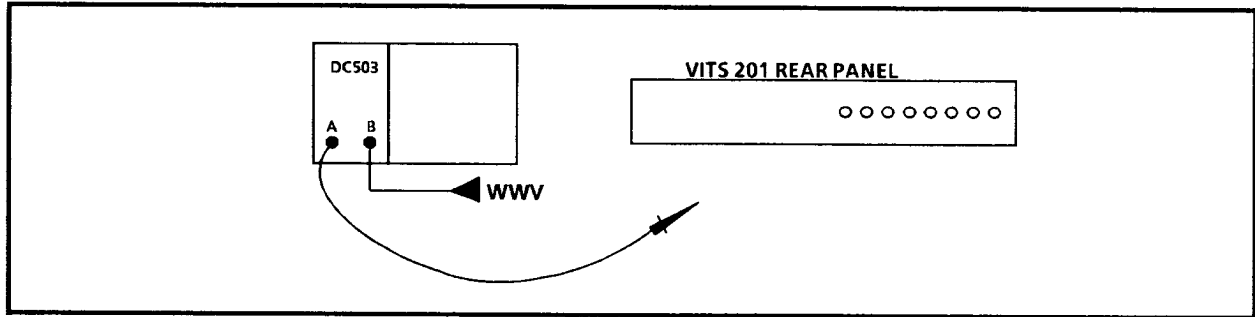

Figure 6-14. Setup to check subcarrier frequency.
- a. Connect a X1 probe to the Channel A input of the DC503A, and connect a reference, such as WWV, to the Channel B input, as shown in Figure 6-14.